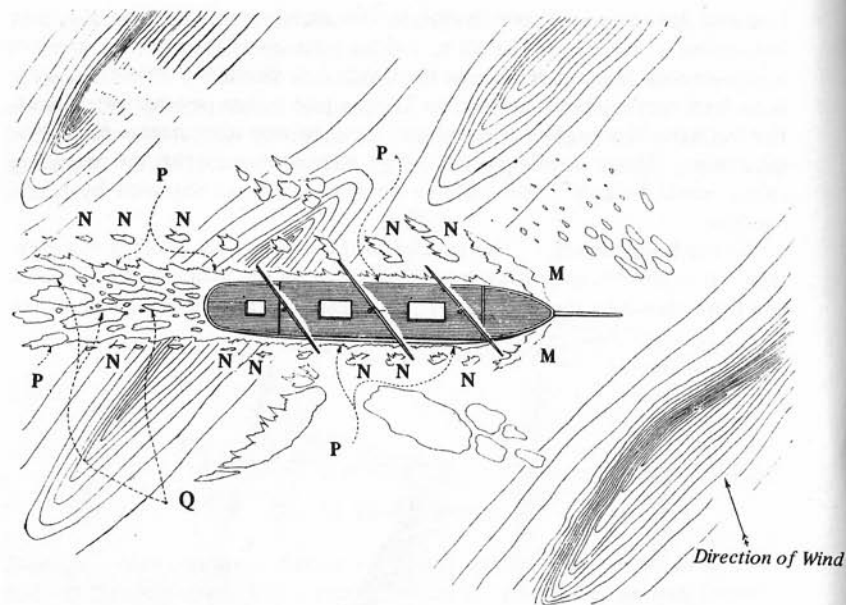

Fig. 28. Diagram of broken water around a moving ship
I can say this about the sea. Any modeller who cares to sit down quietly and plan out his sea setting will, without any doubt, evolve a setting worth while. A ship causes the following characteristic water disturbances (refer to Fig. 28). The bow wave (M) (or bone in her teeth) is to be found at almost any speed and in any size of ship. In smooth water it would be a regular arrowhead slightly